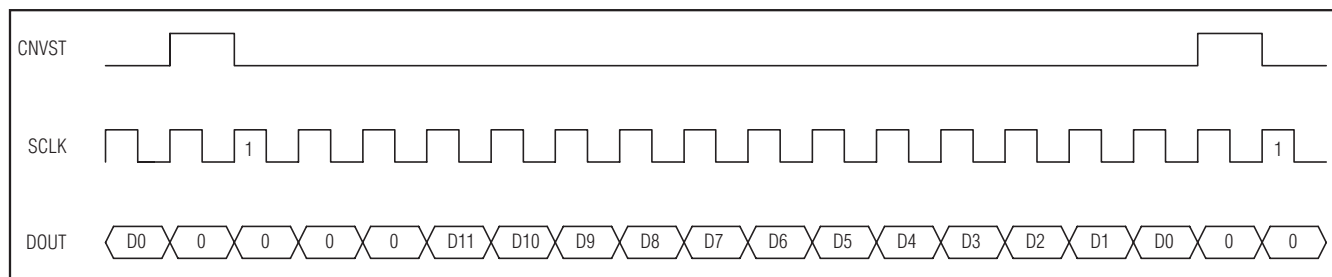
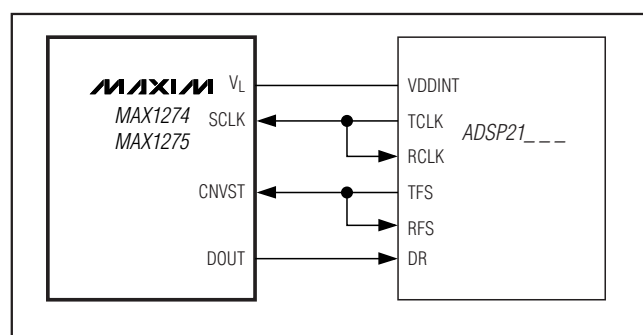

Figure 17. DSP Interface—Continuous Conversion
Figure 19. Interfacing to the ADSP21_ _ _
The MAX1274/MAX1275 can also be connected to the TMS320C54_ by using the data transmit (DX) pin to drive CNVST and the CLKX generated internally to drive SCLK. A pullup resistor is required on the CNVST signal to keep it high when DX goes high impedance and 0001hex should be written to the DXR continuously for continuous conversions. The power-down modes may be entered by writing 00FFhex to the DXR (see Figures 17 and 18).
The MAX1274/MAX1275 can be directly connected to the ADSP21_ _ _ family of DSPs from Analog Devices, Inc. Figure 19 shows the direct connection of the MAX1274/MAX1275 to the ADSP21_ _ _. There are two modes of operation that can be programmed to interface with the MAX1274/MAX1275. For continuous conversions, idle CNVST low and pulse it high for one clock cycle during the LSB of the previous transmitted word. The ADSP21_ _ _ STCTL and SRCTL registers should be configured for early framing (LAFR = 0) and for an active-high frame (LTFS = 0, LRFS = 0) signal. In this mode, the data-independent frame-sync bit (DITFS = 1) can be selected to eliminate the need for writing to the transmit-data register more than once. For single conversions, idle CNVST high and pulse it low for the entire conversion. The ADSP21_ _ _ STCTL and SRCTL registers should be configured for late framing (LAFR = 1) and for an active-low frame (LTFS = 1, LRFS = 1) signal. This is also the best way to enter the power-down modes by setting the word length to 8 bits (SLEN = 1001). Connect the V_L pin to the ADSP21_ _ _ supply voltage when the MAX1274/MAX1275 are operating with a supply voltage higher than the DSP supply voltage (see Figures 17 and 18).